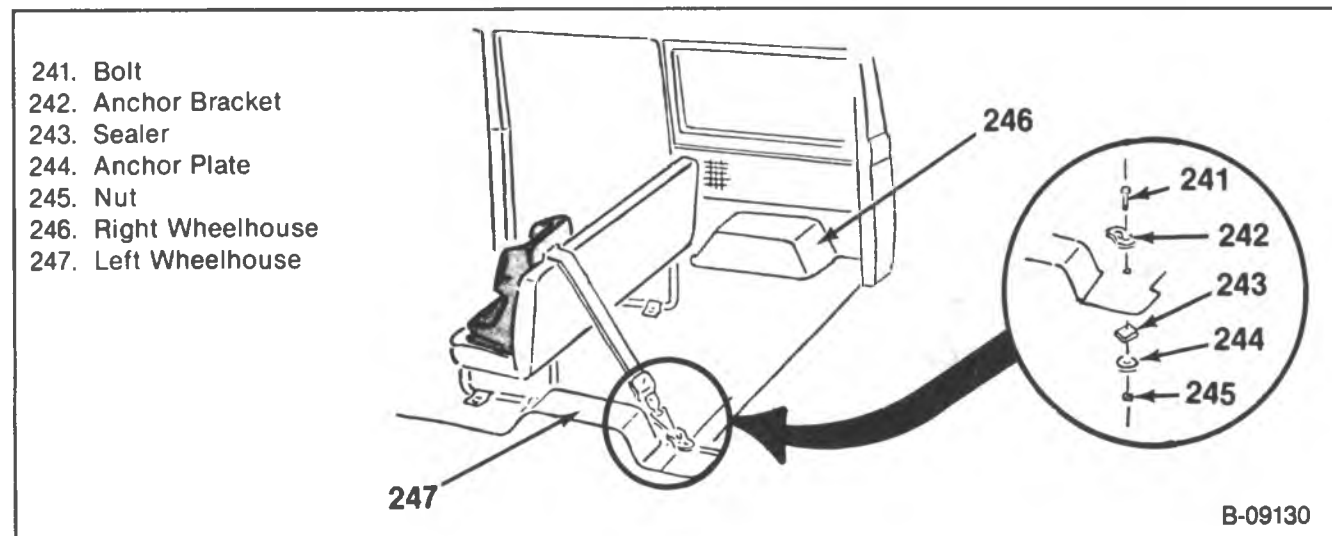

Figure 47 — Third Seat Top Strap Components — Left Position
1. Determine the location for the anchor by measuring 76 mm (3-inches) rearward from the left wheelhouse. Measure 10 mm (3/8-inch) inboard from the left wheelhouse. Mark the position where those measurements meet (figure 47).